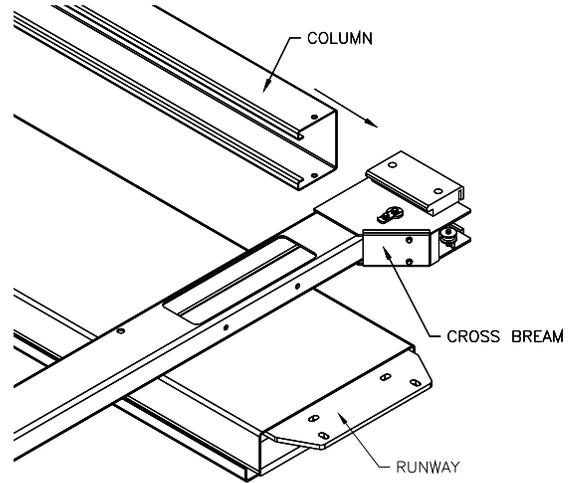

Fig 5 – Column/Cross Beam Assembly
- 7) Lay the cross beams on the runway per **Fig 5**. Place cardboard between the runway and cross beam. Slide the column over the ends of the slide blocks on the cross beam. Repeat for each column.